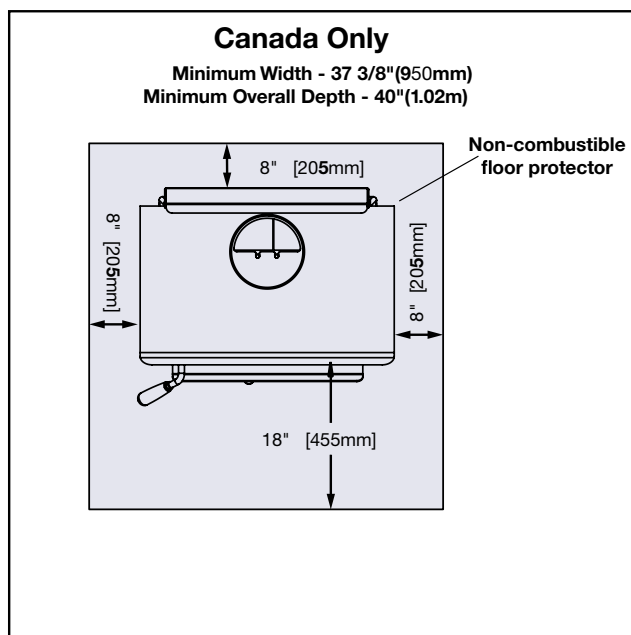
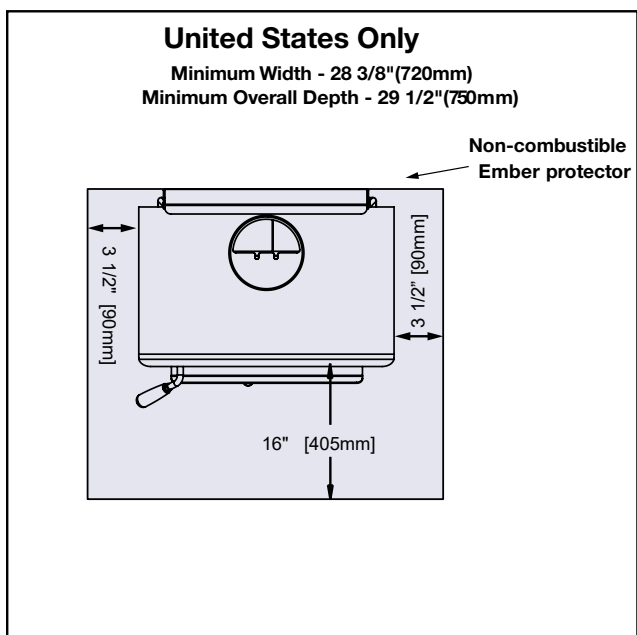

Figure 8: TN10 - CAN Floor protector.
Figure 9: TN10 - US Floor protector.
This heater may be installed using a single-wall connector (smoke pipe) as per local and National fire and Installation codes. See Single wall Connector in Figure 8. Clearances may be reduced with various heat shielding or insulating materials. Consult national fire codes and authorities for approval (U.S. -NFPA 211 or CAN. - CSA B365)
In Canada: 18" (457 mm) from the loading door on the firing side and 8" (203 mm) from the sides. See Figure 8, below.
In USA: 16" (406 mm) to the front of the firebox and 8" (203 mm) from the sides of the fuel loading door opening. See Figure 9, below. This protection is also required under the chimney connector and 2" (51 mm) beyond each side.
1. Position stove and floor protection (with hole for combustion air if required) in accordance with the clearances as stated on the label and in Figure 7., and Figure 8 or Figure 9 on pages 14 & 15.